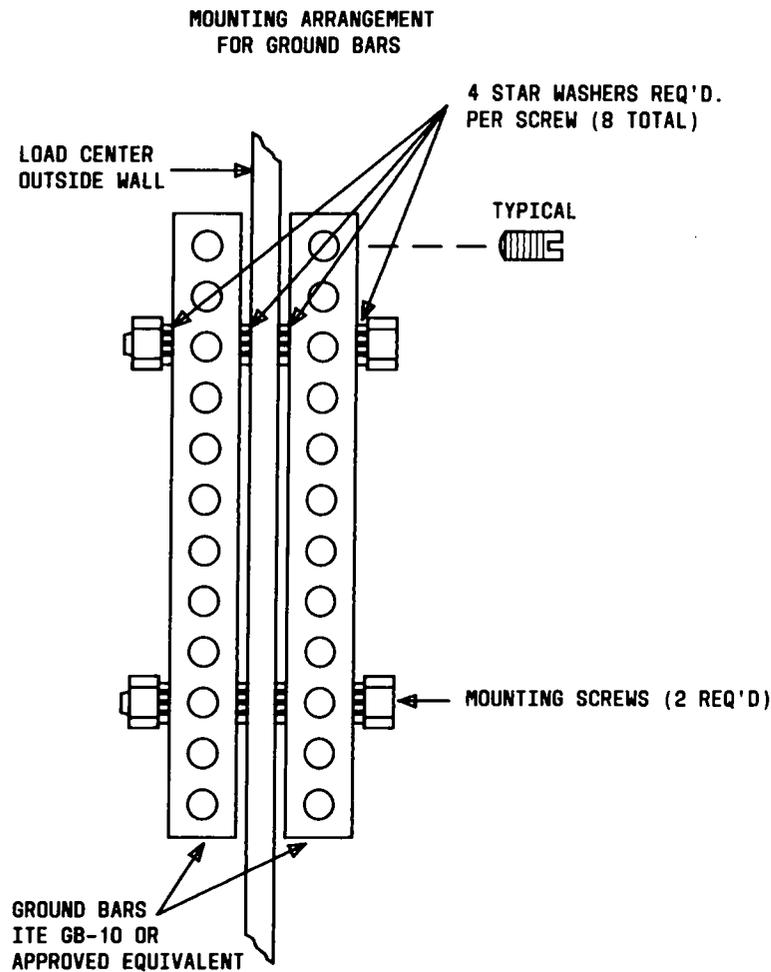

Fig. 54—Mounting Arrangement for Ground Bars
6.09 The two ground bars are mounted back-to-back on the side of the load center. They hold together in a "sandwich" arrangement such that one is inside the load center and the other on the outside. Star washers between the screwhead and ground bar, between nut and ground bar, and between each ground bar and load center wall ensure an electrical bond between ground bars and load center wall (Fig. 54). The inside ground bar is used to terminate all green wire grounds but not the neutral wire.